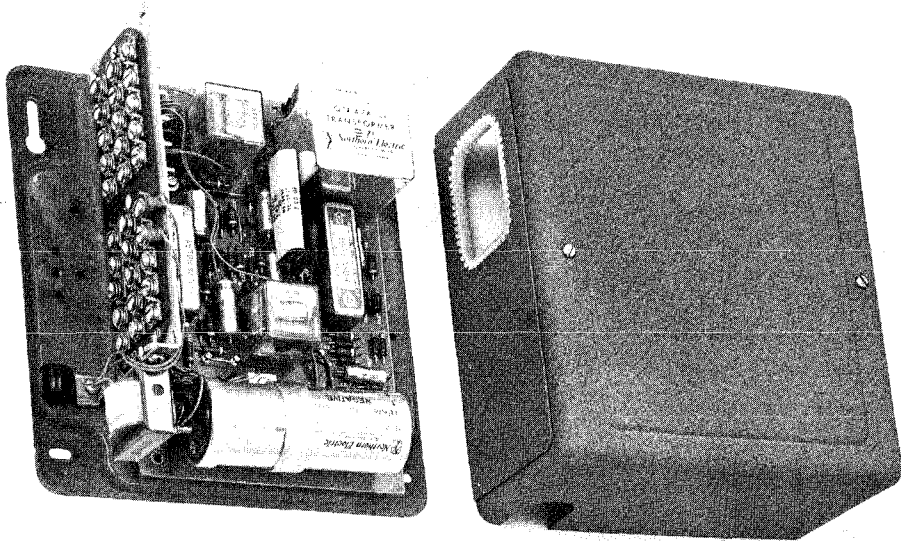

Fig. 1 — QCS1A Voice Station Coupler
2.04 The voice station coupler QCS1A (Fig. 1) is a wall mounted unit measuring  $6\frac{3}{4}$  inches wide,  $6\frac{5}{8}$  inches high and  $3\frac{3}{8}$  inches deep. The coupler weighs approximately 3 pounds and is enclosed in a metal apparatus box. Two key hole slots at the top and two screw holes at the bottom are provided on the base for mounting the unit on a wall or other vertical surface.